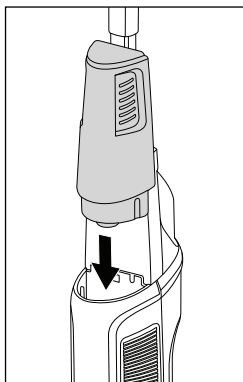

Fig. 11
- ◆ Flip the fresh water tank **11** over and slide it back into the opening at the top on the front of the appliance (see fig. 11).